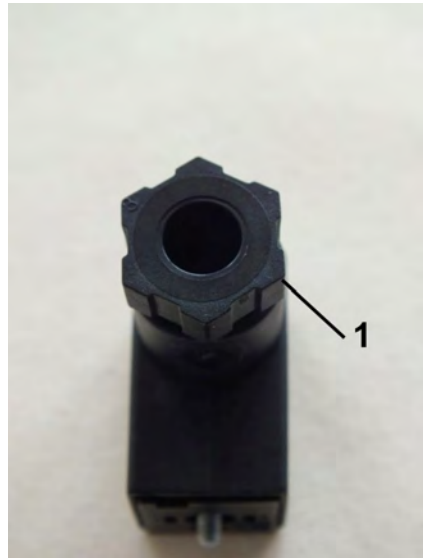

Fig. 23: Loosen the screw connection
4. ➤ Loosen the screw connection Fig. 23/1) by turning it to the left
8. ➤ Retighten the screw connection (Fig. 23/1) by turning it to the right until tight